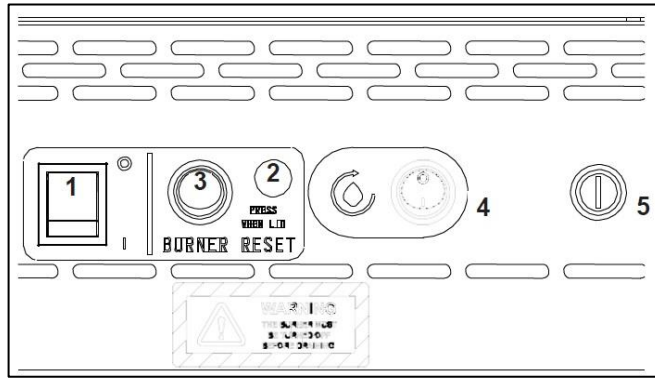

Figure 4 – G3840/G3840X/G3840F/G3840FX Additional controls
G3840 & G3840F - Additional Controls - (See Figure 4)
g) Neon next to burner switch inside door will illuminate to indicate lockout has occurred and that no burner flame is present. G3840 / G3840F Additional controls - Item 2 on Figure 4.
i) Press lockout reset switch. See Figure 4 (*Lock out indicator will extinguish*).
The unit is equipped with an additional temperature limit thermostat, independent of main controller. In the case of operating thermostat failure, allowing oil temperature to rise above predetermined legislation safe zone (230°C), limit device will activate and cut power to controller. It will also stop the flow of gas to burner, refer to Figure 4.
- Remove cap and push green button to reset limit thermostat, refer to Figure 4.